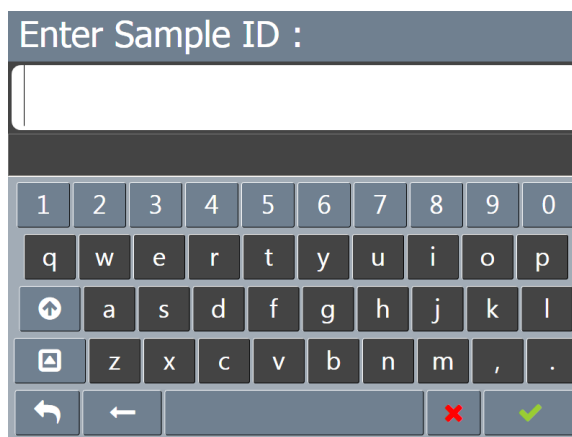

Figure 17 — Verify Known KV Field Entry Screen
3. Click **Verify Known KV**. The field entry screen opens. See Figure 17.